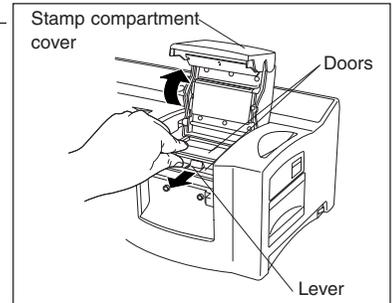

figure 1
- ❶ After the data is printed onto the draft sheet, which is then fed over the xenon lamp unit, the message "INSTALL STAMP!" appears in the LCD of the SC-2000USB.
- ❷ Lift open the stamp compartment cover, slowly pull the lever toward you to open the doors in the stamp compartment, and then check that the printed draft sheet has stopped over the xenon lamp unit (see figure 1).